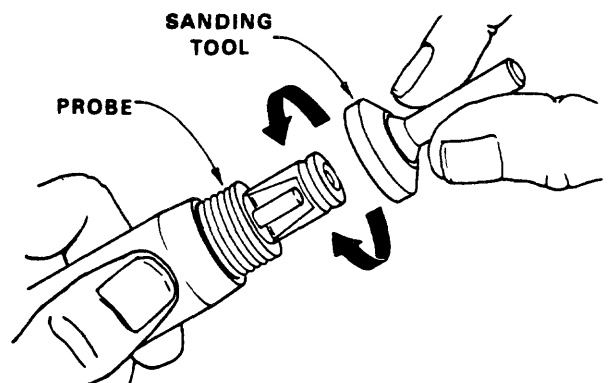

Figure 2 — Sanding the probe surface
- Hold the sanding tool's abrasive face uniformly against the probe's sensing surface (see Figure 2) and slowly rotate the tool in a circular fashion until all traces of the pencil mark are removed.